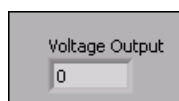

Figure 10.15
1. Open the Voltage Output VI located in the C:\Exercises\LabVIEW Basics I directory. The front panel (Figure 10.15) is already built.